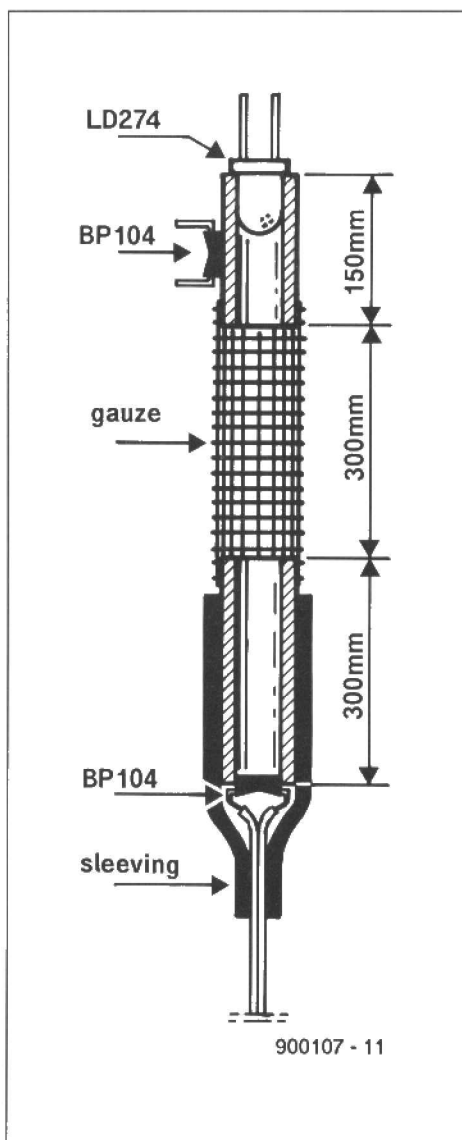

Fig. 1. Construction of the infra-red barrier that forms the sensor of the smoke detector.
The sensor is housed in a transparent ball-point holder. Figure 1 shows the general construction of the device. The sensor is based on the principle that smoke attenuates infrared (IR) light transmitted through air. The higher the smoke density, the lower the IR light intensity on the photodiode. The transmitter, an IRED Type LD274, is fitted in an approximately 1.5-cm long piece of the ball-point holder. The inside diameter of the holder may have to be drilled out to enable the IRED to be seated firmly. The photodiode is fitted in a similar manner at the end of a 3-cm long tube section which is made light-resistant with a piece of heat-shrink sleeving or black self-adhesive tape. This is not necessary for the transmitter tube, although a few pieces of heat-shrink sleeving may be used to give it the same diameter as the receiver tube. This is done mainly to enable the two tubes to be fitted face to face on a small piece of stripboard, which also accommodates the electronic circuit. Do not make the transmitter tube light-resistant over the full length, since an additional photodiode must be mounted on it to function as a reference device. This diode is fitted at the outside of the transmitter tube, in direct optical contact with the IRED.